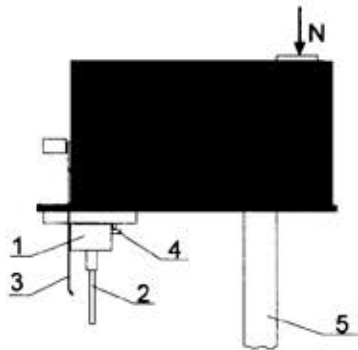

Fig. 3: CRY 8 – measuring head
- **Changing the stirring wire:** A deformed stirring wire can cause difficulties in getting the sample to freeze. To remove the defective stirring wire, the knurled screw must first be loosened and removed. The new stirring wire is inserted so that the wire end is placed with the thermistor probe (see Fig. 3)